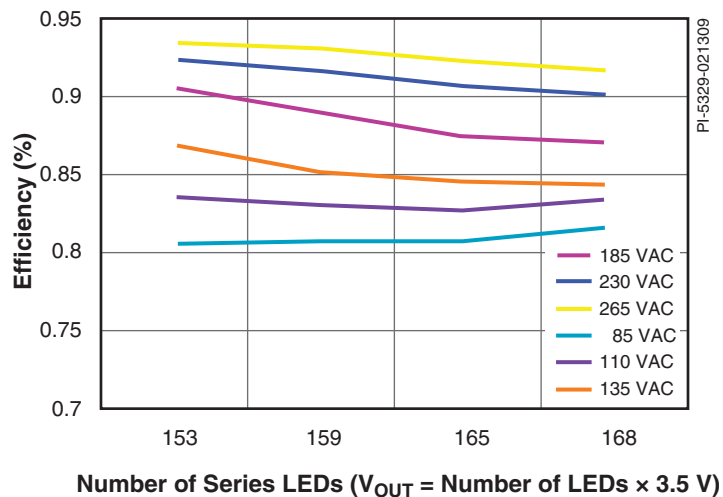

Figure 2. Efficiency vs. Input Voltage and Number of LEDs in String.
- Very high efficiency (>80%) throughout operating range. (see Figure 2)